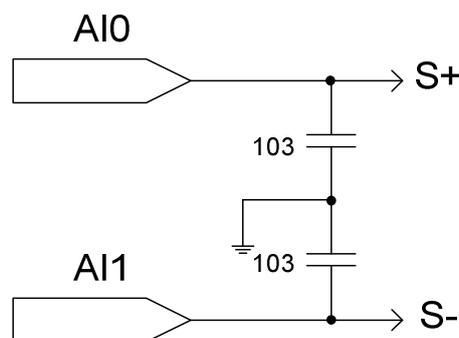

Figure 5
- ✓ ESD protection ability of AI0~AI1 pin of HY11P32 is not as competitive as the rest of HY11P series products, it is recommended to design load cell circuit as Figure 5 circuit.